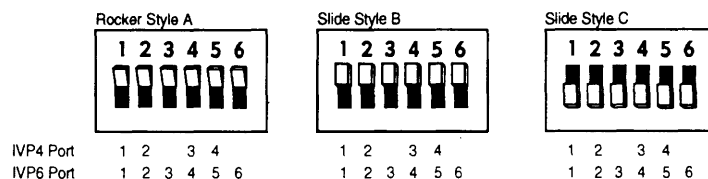
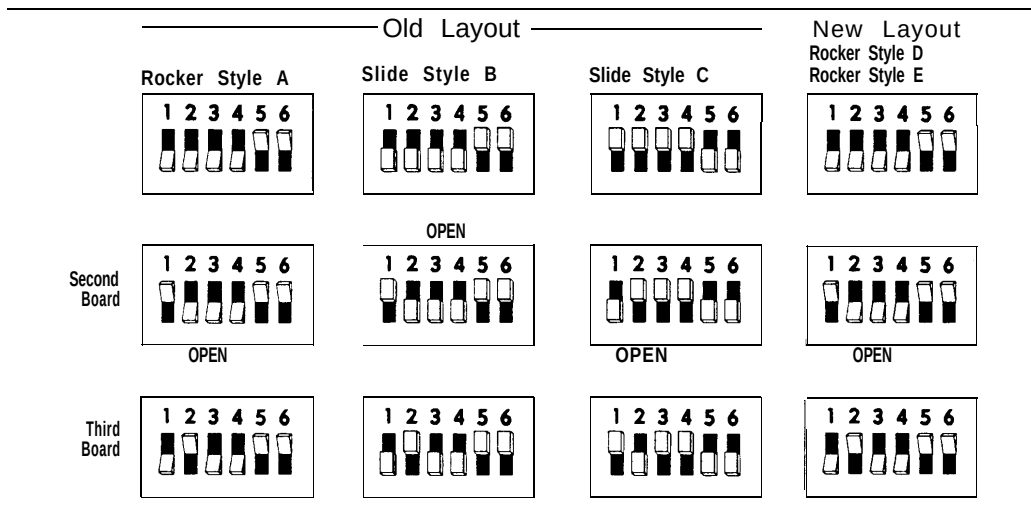

Figure 3-32. Settings for SW1.1 (Old Layout Boards Only)
Figure 3-33. Address Switch Settings
On old layout boards, the first switch bank (SW1.1) controls the line impedance. The settings should all be set to the OPEN position initially (as shown in Figure 3-32 for each style). If problems are encountered with touch-tone recognition on any channel, change the switch for the affected channel on the first bank (SW1.1) to the opposite (closed) position. Figure 3-32 shows the correspondence between switches and IVP channel numbers.
Figure 3-33 shows the correct settings for each of the four styles.
1. Set the switches for each board according to its style and board position. See Figure 3-32 and Figure 3-33. If you are testing to determine board style, set the switches for style C the first time as most boards with slide switches are style C.